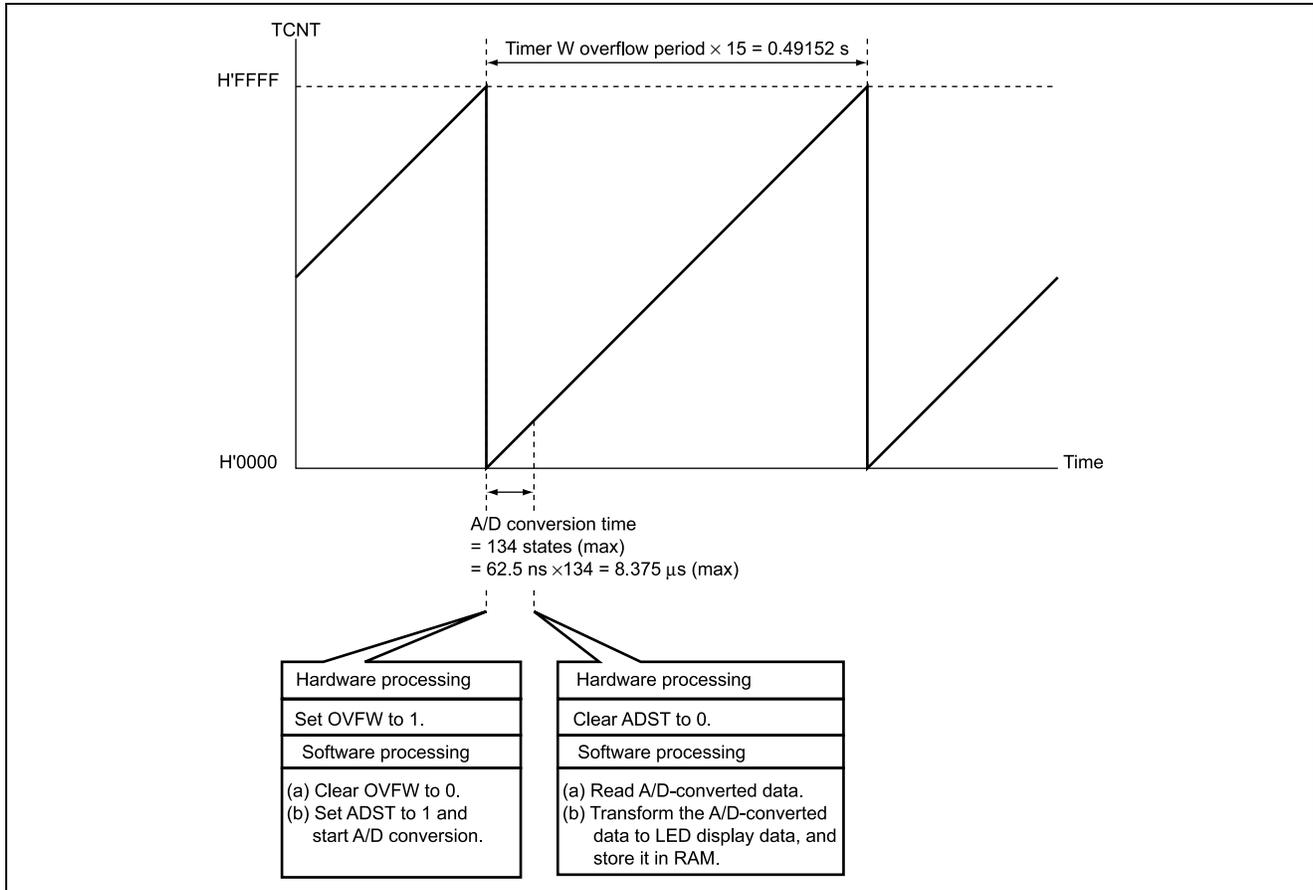

Figure 3.1 Principle of Operation of A/D Conversion of AN1-Pin Signal Using Timer W
- Figure 3.1 shows the principle of operation in the use of timer W and A/D conversion carried out on the AN1 pin. The A/D conversion interrupt is not used in this sample task. Instead, the time to start A/D conversion (0.49152 s) and completion of A/D conversion are detected by polling of the timer W overflow flag in the tmrw routine.